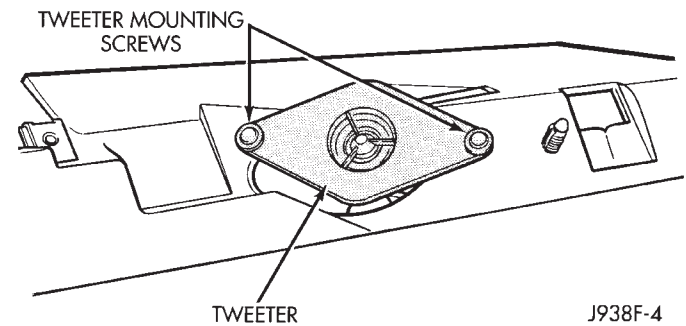

Fig. 8 Tweeter Removal
- (10) Open glove box and remove 2 screws holding dash pad.
- (11) Remove dash pad.
- (12) Remove 2 screws holding tweeter (Fig. 8).